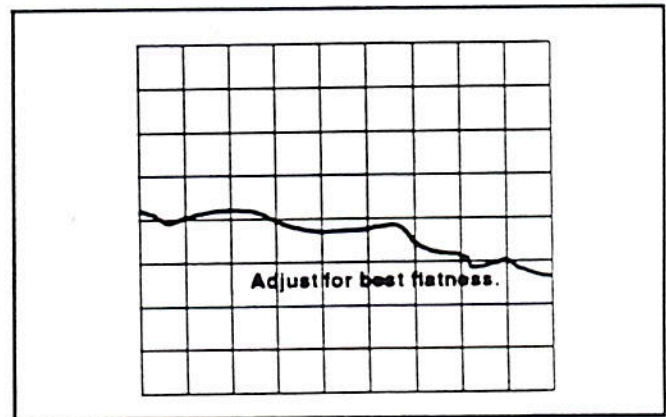

Figure 3-6. Level Detector Waveform
13. Observe that the 560A displays a waveform similar to that shown in Figure 3-6.